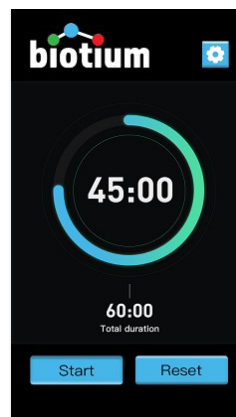

Figure 2. Example PMA-Lite™ 2.0 main menu display screen.
1. Turn the PMA-Lite™ 2.0 on. The power switch is located on the back of the PMA-Lite™ device. The display will illuminate with the main menu (Figure 2).
- Once the desired time is set, press the  button in the top right-hand corner of the display screen to return to the home screen. The running time will be displayed in the center of the screen. The total duration is displayed below the running time on the home screen (Figure 2).